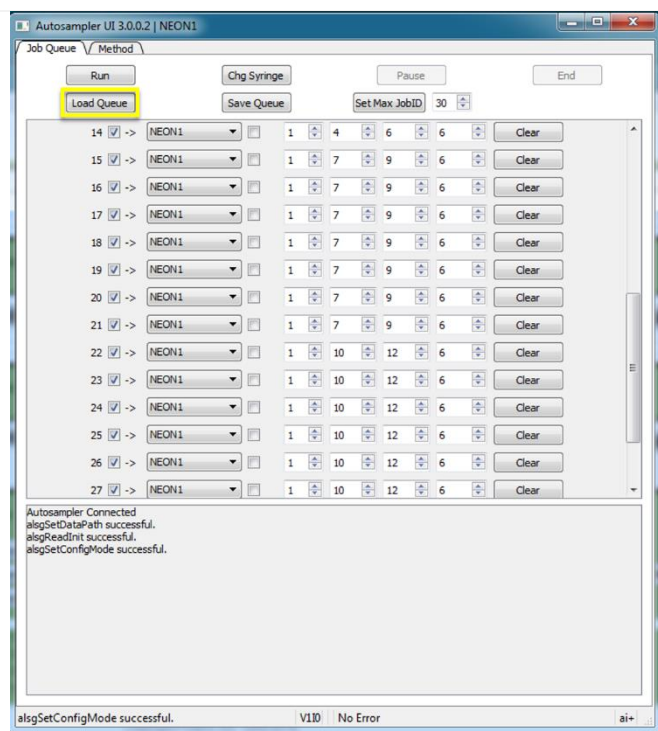

Figure 164. Select Load Queue.
STEP 4 | Select Load Queue (Figure 164) and load "NEON1.Que".